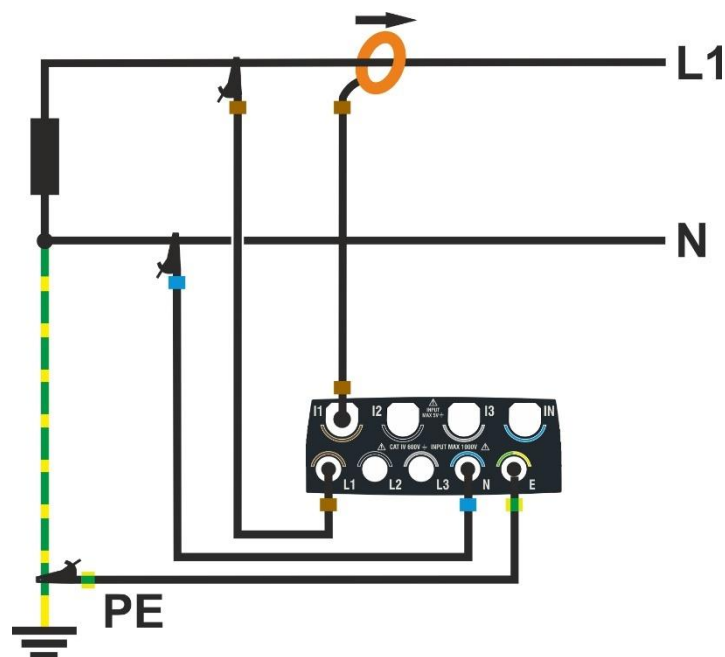

Fig. 64: Connecting the instrument to a Single-Phase 2 Wires system
2. Connect the voltage cables to the L1, N and PE conductors as shown in Fig. 64